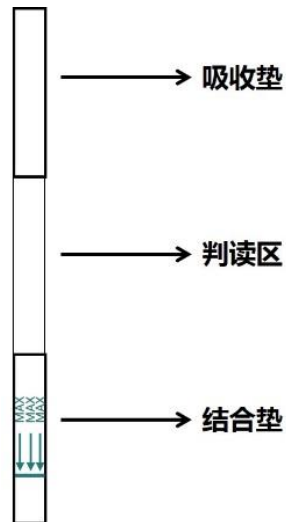

Figure 1. Schematic Diagram of Disposable Nucleic Acid Detection Test Strip Structure
them on the absorbent pad (Figure 1). Each test strip can only be used for single detection of a single sample. When the amplification product volume is 50-100  $\mu\text{L}$ , the nucleic acid product can be directly detected in a 200  $\mu\text{L}$  PCR reaction tube. When the product volume is less than 50  $\mu\text{L}$ , ultrapure water needs to be added to the PCR tube to make up the volume to 50  $\mu\text{L}$ , mix thoroughly by pipetting, and then detection can be performed.
2. After PCR, RPA, or RAA reaction is completed, open the PCR reaction tube and insert the conjugate pad end (arrow end) of the test strip into the PCR reaction tube (Figure 1). The liquid level must not exceed the top of the conjugate pad. Wait for the reading zone to be fully wetted (approximately 1-2 minutes; when the ambient temperature is low, such as in winter, the wicking speed will be reduced and the wetting time of the reading zone will be extended). After the control line (C line) develops color, the test strip can be removed. Read the detection result directly according to the color development of the test strip.